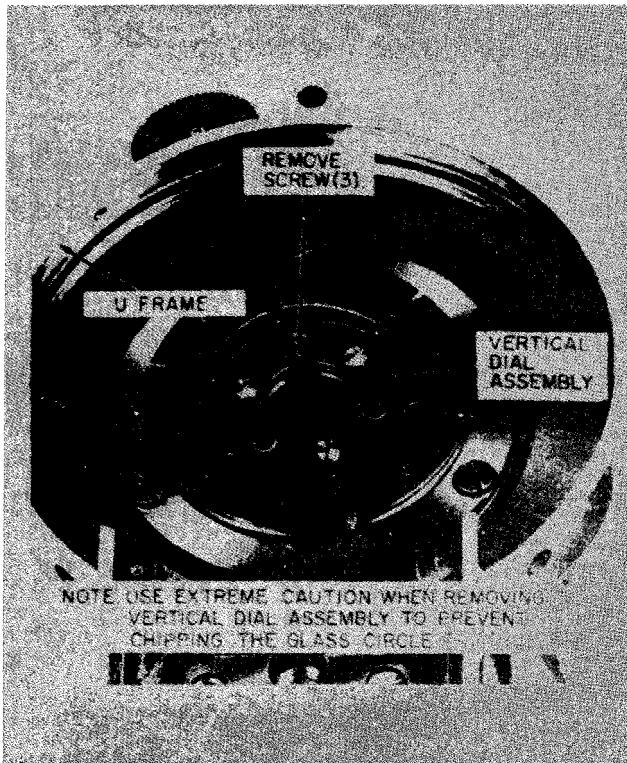

Figure 5-16. Vertical circle assembly, removal and installation.
(1) Remove the vertical collimation housing (para 5-25).
(2) Refer to figure 5-16 and remove the vertical circle assembly.
(1) Refer to figure 5-16 and install the vertical circle assembly.
(2) Install the vertical collimation housing (para 5-25).